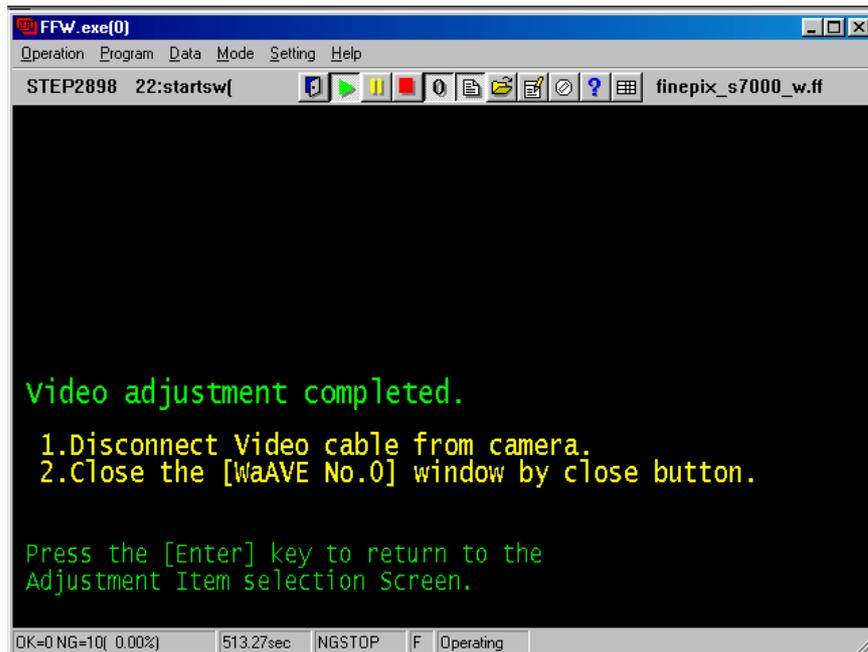

Fig.37
--->The [VIDEO Adjustment Complete screen (Fig.37)] appears.